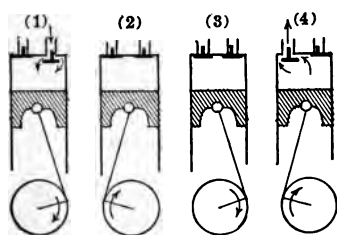

FIG. 193. — Four cycles of a gas engine.
the piston, corresponding to two revolutions of the shaft, are shown in figure 193. It will be noticed that whereas the *two-cycle* type has *no* valves in the cylinder, the *four-cycle* has *two* valves, one for the intake of gas and air and another for the exhaust of the spent gases. These valves are operated mechan-
ically by cams on a small **half-time shaft**, which is driven through gears at half the speed of the main shaft. In figure 193, (1), the intake valve is open, and the piston is going down, thus drawing in the explosive mixture. In (2) the return or back stroke of the piston compresses the mixture. In (3) the mixture has been ignited by an electric spark or flame, and power is obtained from the thrust of the expanding gas on the outward stroke. This is the working stroke. In (4) the exhaust valve is open and the spent gases are being pushed out of the cylinder by the returning piston. Then